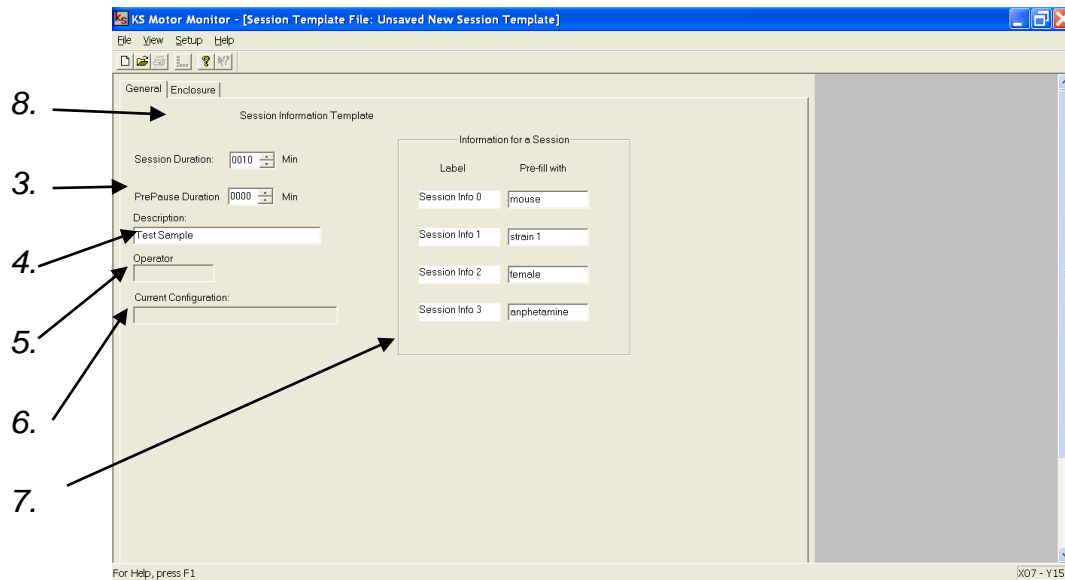

Figure 2-2. Session Screen - General Tab
2. Select **New** (the white sheet on the tool bar), and then, **S**ession. A screen similar to the one shown in Figure 2-2 will appear.